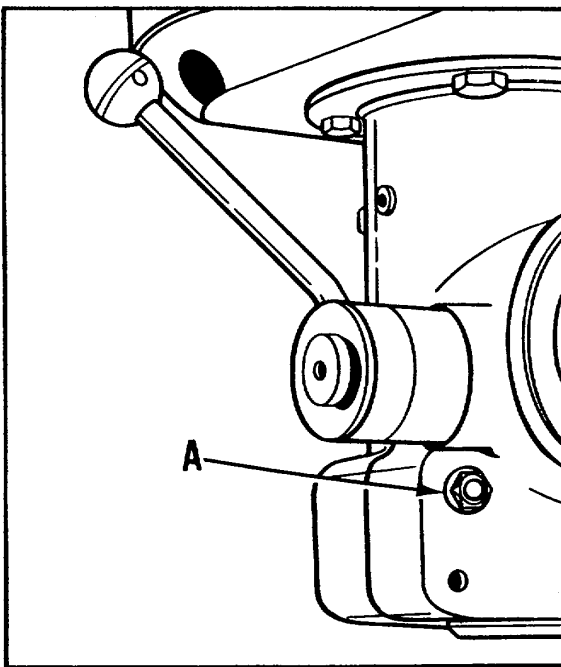

Fig. 11.
2. Push the screw (A) Fig. 11 out toward the rear of the head casting until the hexagon head of the screw (A) is free from its housing.
3. Turn the hexagon head screw (A) Fig. 11 until the head of the screw is turned one or two positions and replace it in its housing.